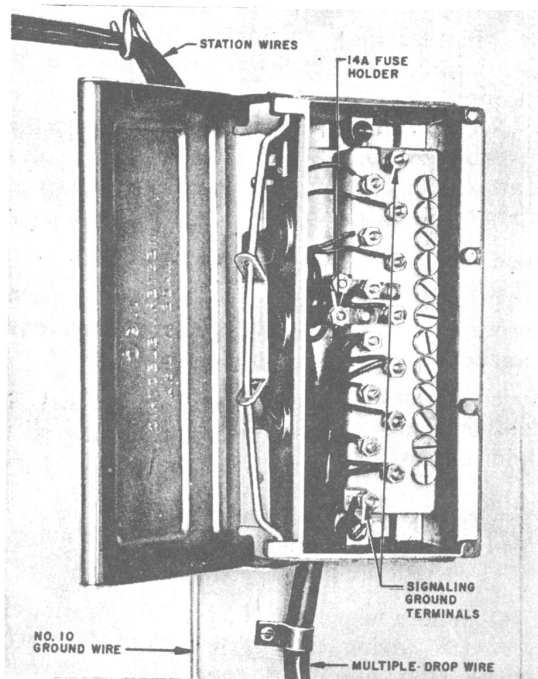
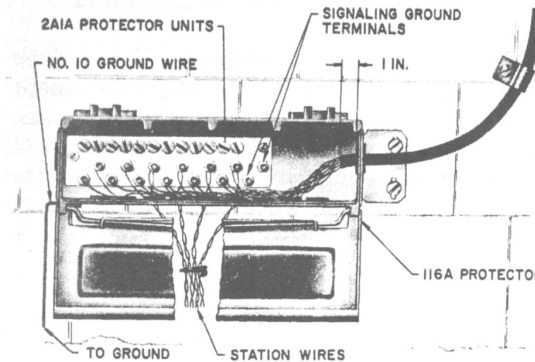

Fig. 4 - Wiring of 116C Protector
Fig. 5 - Wiring of 116A Protector
8.05 The 116C protector (Fig. 4) and the 116A protector (Fig. 5) are shown served by a multiple drop wire, but they can also be served by separate drop wires.
9.01 Sneak current fuses, when specified, may be added to the 116-type protector. A 14A fuse holder is used to mount the 60-type fuse on the protector (see Fig. 4).